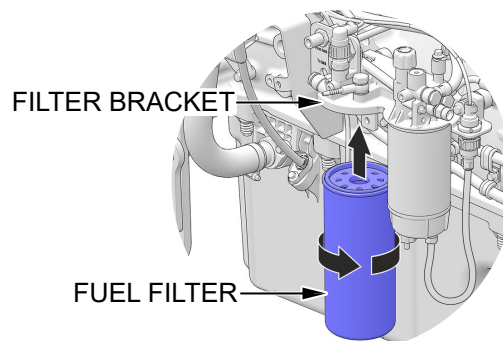

Figure 64. Fuel Filter Replacement
1. Clean around the **fuel filter** (Figure 64).
3. Clean the filter mating surface on the **filter bracket** (Figure 64).